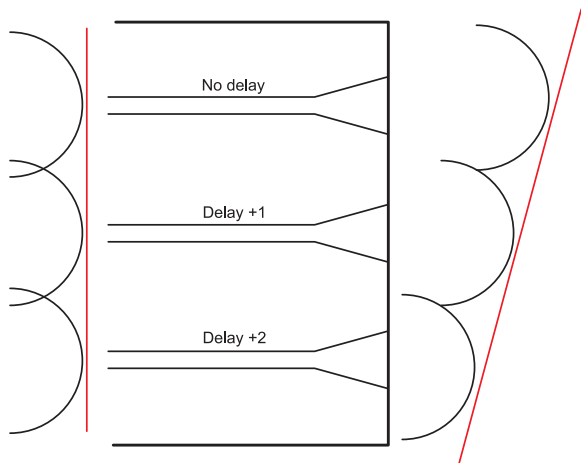

Figure 2. An OPA.
- **Optical phase array (OPA).** The OPA principle is similar to phased-array radar. In an OPA system, an optical phase modulator controls the speed of light passing through the lens. Controlling the speed of light enables control of the optical wave-front shape, as shown in **Figure 2**. The top beam is not delayed, while the middle and bottom beams are delayed by increasing amounts. This phenomenon effectively “steers” the laser beam to point in different directions. Similar methods can also steer the back-scattered light toward the sensor, thus eliminating mechanical moving parts.